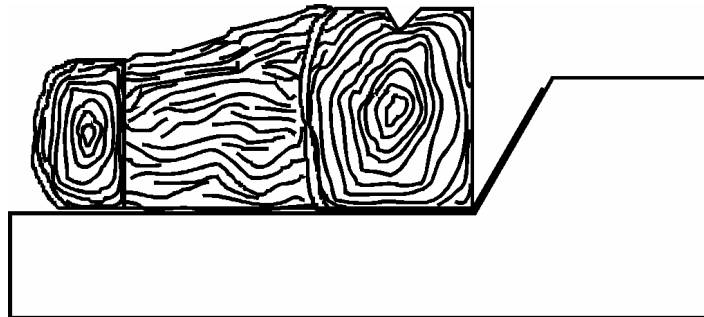

Figure: 9 - Side view of burner illustrating the proper log placement.
2. Gently place the rear of the logset on the burner stand. Slide the log towards the back of the burner until the bottom rear corner of the log is tight against the corner of the bend in the burner. (The flat side of the logset faces to back of the stove.) Centre the log to the burner. When properly positioned, the knot should be located on the top left corner of the log. Refer to Figures 9 & 10 for further details.